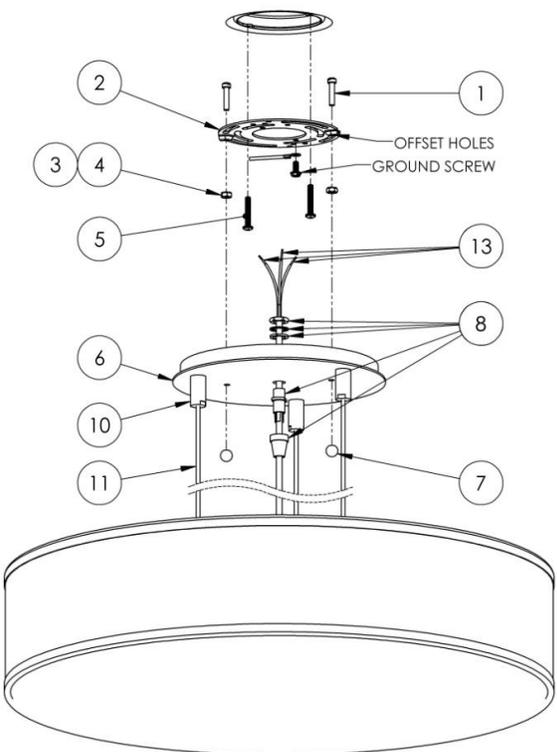

FIG 2
2. Assembling Fixture (Fig 2)
- Take the fixture power cord wires (9) (Fig 2) and slide them through the strain relief assembly (8) and canopy (6).
- Before cutting the cord, measure the desired cord length for pendant mounting. Tighten the strain relief (8) by threading tapered metal finial to mechanically secure the cord.
3. Wiring Fixture (Fig 2 & 3)